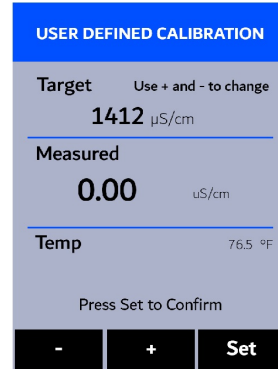

Figure 10.
4. Press (**<**) to launch the **USER DEFINED CALIBRATION** screen (Figure 10).